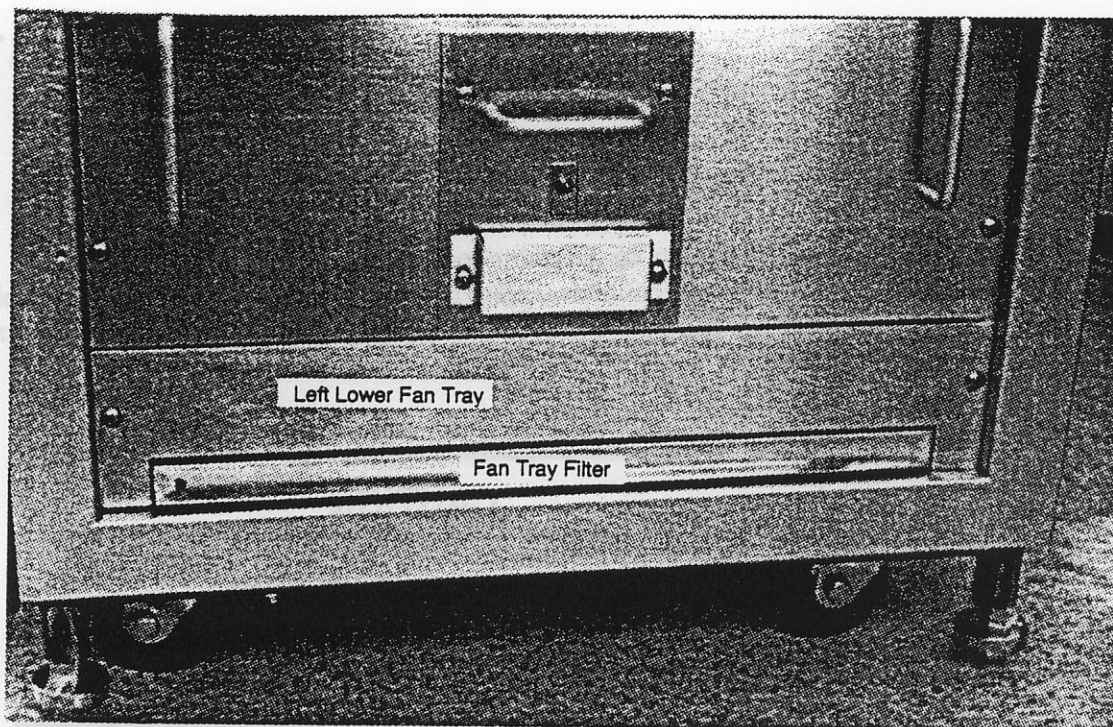

Figure 7-31. Left Lower Fan Tray
The status lights on the control panel illuminate when a fan is not operating and should be replaced. Refer to Figure 7-20 for a photograph of the lower CPU fan tray. Figure 7-31 is a photograph of the left lower fan tray.
3. Remove the two securing screws on the fan tray. Refer to Figure 7-31.
4. Pull out the filter. Refer to Figure 7-31.